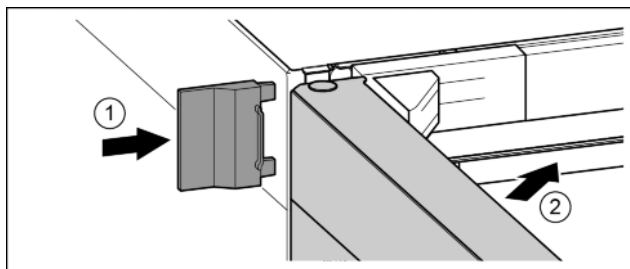

Fig. 19
- ▶ Slide on the external cover. Fig. 19 (1)
- ▶ Close the upper door. Fig. 19 (2)